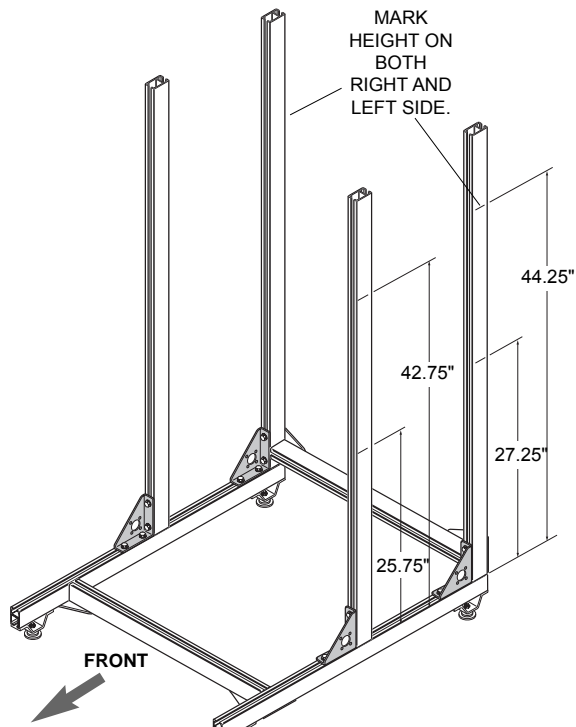

**Figure 5.**
- Stand left hand side frame with cross rails upright (Fig. 5). Assemble cross rails to right hand side frame. Square completed assembly and securely tighten clamp bolts.